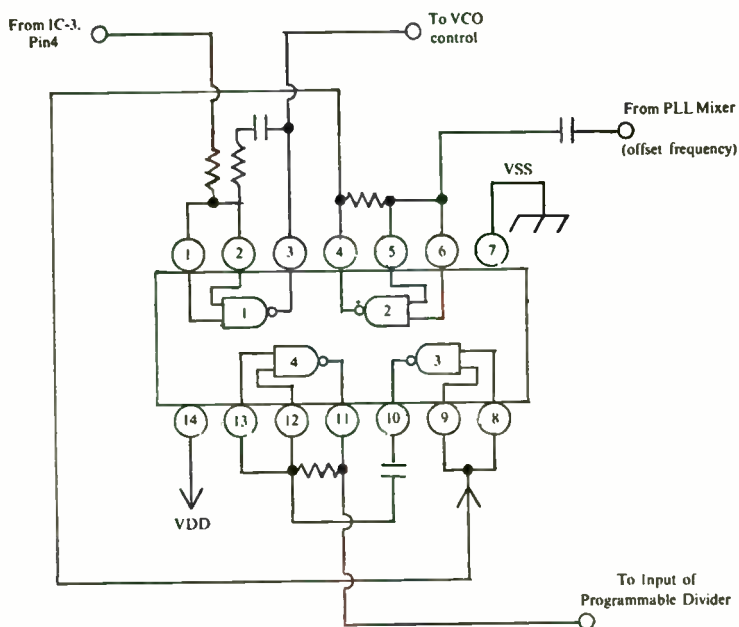

Fig. 7-4. A breakdown of the internal structure of the MB84011U CMOS quad NAND gate IC.
From the low-pass filter, the offset frequency is fed to IC4. This is a CMOS quad 2-input NAND gate. Figure 7-4 shows the internal structure of IC4. The diagram also shows the way the IC is connected in the PLL circuit, so that its action can be more easily analyzed. Notice that both inputs of each NAND gate are connected. This simply makes the NAND gate an *inverter*. Three of the NAND gates (2, 3, and 4) are connected in cascade between the output of the PLL mixer and the input of the programmable divider. The other gate (1) is used as a filter between pin 4 of IC3 and the VCO control line (pin 5 of IC5).